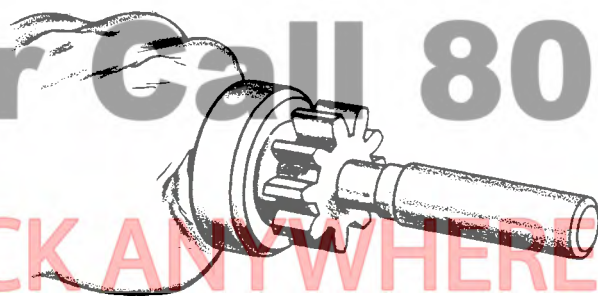

FIGURE 37. TOOL FOR DRIVING PINION STOPPER
5. **Solenoid Starter Only:** Remove the ring after driving the pinion stopper toward the pinion gear using a cylindrical tool (Figure 37). Remove the overrunning clutch and the pinion stopper at the same time.